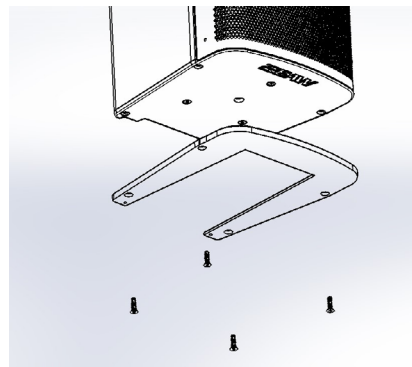

Figure 4 - Install Slide Plate
- Position Slide Plate over open holes, then use 4x screws (B) to secure plate to the cabinet (Figure 4)